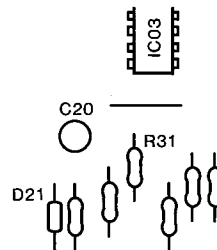

Fig. 6
3. If the groove is not traced correctly, cut off R31 ($3.3\text{k}\Omega$) on the Control P.C.Board and re-check the tracing. (Fig. 6)